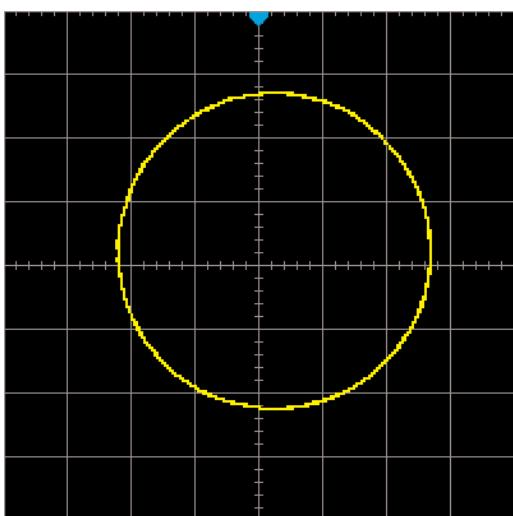

Figure 6.3 Delayed Sweep Mode
- 4 Observing the measurement results in the above figure and based on the phase difference measurement principle diagram (Figure 6.3), it can be concluded that  $A/B (C/D)=1$ , which means the phase difference angle between the input signals of the two channels is  $= \arcsin 1 = 90^\circ$ .